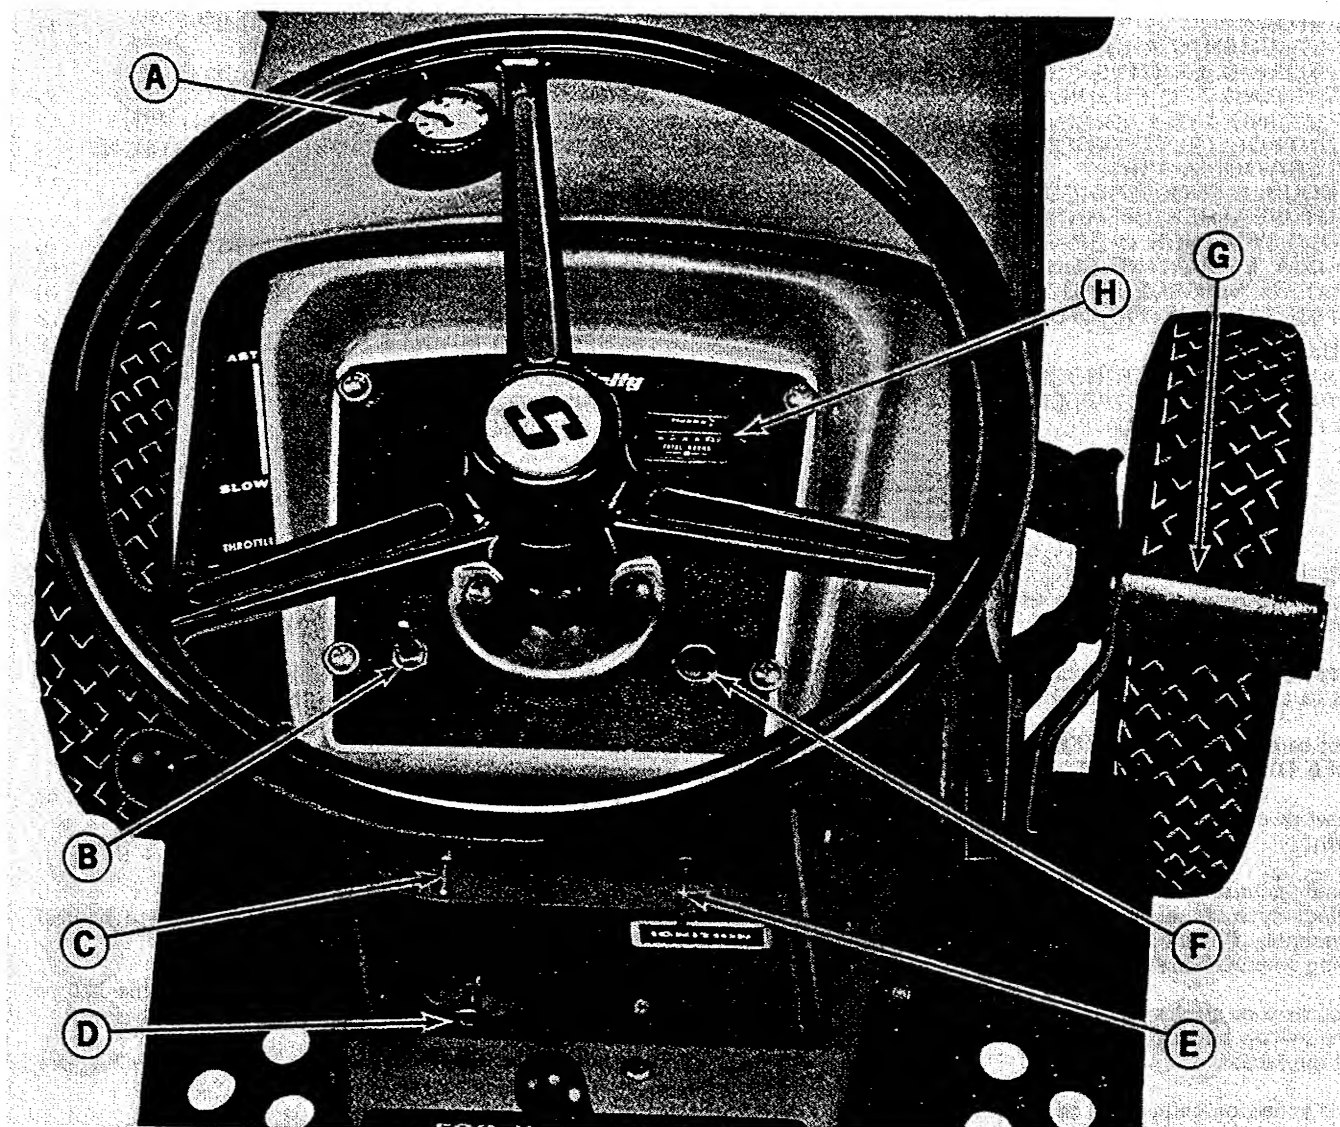

Figure 1. Tractor instrument panel as seen from the operators position on tractor seat.
Picture yourself seated on your Landlord tractor. Before starting the engine, let's learn how to understand and use the instruments and controls. The paragraphs referring to the instruments and controls are illustrated on figures 1 through 4.
IGNITION SWITCH: (Figure 1, item E) To actuate the ignition switch first insert the ignition key as shown. When the key is turned clockwise to the first position, the ignition is ON. In the ON position the lights, hourmeter, etc. will operate. Turn the key clockwise past the ON position to the START position to actuate the starter. **THE TRANSMISSION SHIFT LEVER MUST BE IN THE NEUTRAL POSITION AND THE POWER TAKE OFF CLUTCH CONTROL LEVER (S) MUST BE IN THE DISENGAGED POSITION BEFORE THE STARTER WILL ACTUATE.** Release the
CHOKE CONTROL KNOB: (Figure 1, item D) The choke control knob may be pulled out to increase the amount of fuel entering the engine for starting and cold weather warmup. When starting a cold engine in cold weather pull the choke all the way out. Some choke may be required to start the engine when the air temperature is above 70 degrees F. or while the engine is still warm from being recently run. After the engine has started, push the choke in slowly. In cold weather it may be necessary to leave the choke pulled out slightly for three or four minutes while the engine warms up. **NEVER OPERATE THE ENGINE WITH THE CHOKE OUT AFTER IT HAS HAD SUFFICIENT**
GENERATOR WARNING LIGHT:(Figure 1, item F)
HOURLMETER: (OPTIONAL) (Figure 1, item H) The
FUEL GAUGE AND FILLER CAP:(Figure 1, item A)
LIGHT SWITCH: (OPTIONAL) (Figure 1, item C)
POWER LIFT SWITCH: (OPTIONAL)(Figure 1, item
CLUTCH AND BRAKE PEDAL:(Figure 1, item G) Depressing the pedal will first disengage the tractor drive clutch. As you continue to depress the pedal, the brakes will be applied to stop the tractor.
The diagram printed on the tractor frame shows the location of each position. To shift the transmission into reverse or second, pull the shift lever back toward you, then push it all the way to the right or left into the desired position. To shift into first or third, push the shift lever forward and move it left or right all the way to the desired position. Do not attempt to move the shift lever unless the foot pedal (Figure 1, item G) is depressed and tractor motion is stopped. The shift lever must be in the neutral **START** position for the engine to start.